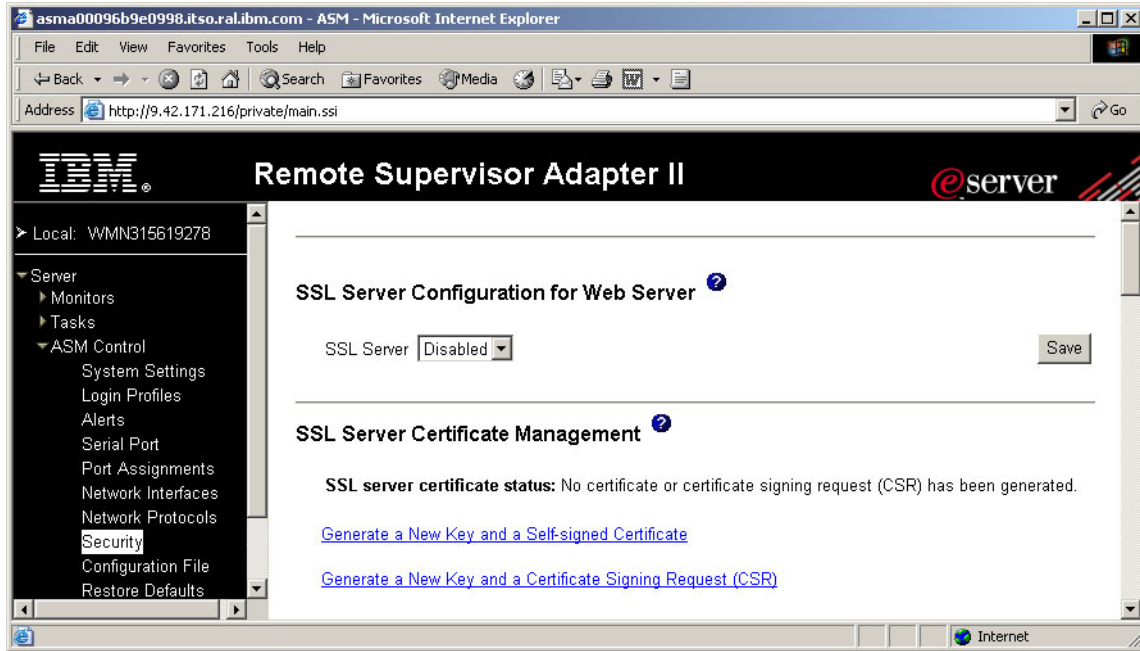

Figure 5-1 Configure a secure Web server
2. Click **ASM Control** or **MM Control** → **Security**. Figure 5-1 on page 131 appears.